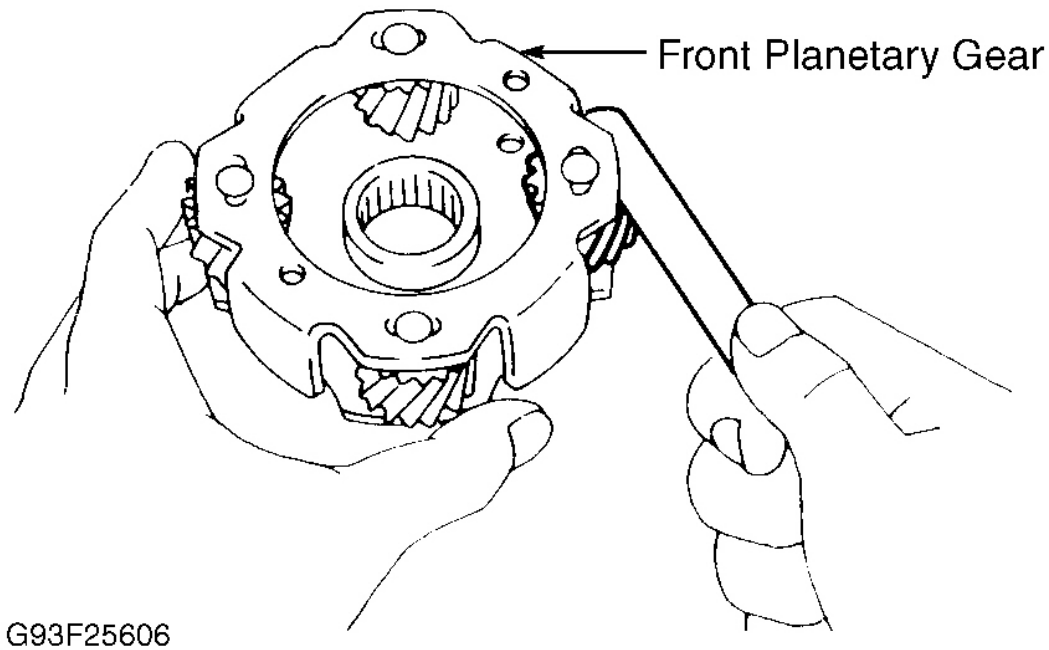

Fig. 32: Measuring Planetary Gear Thrust Clearance
3. Measure planetary pinion gear thrust clearance. Standard clearance should be .008-.020" (.20-.50 mm). Maximum clearance is .020" (.50 mm). If clearance exceeds specification, replace planetary gear. See **Fig. 32**.
Clean all parts with solvent. Dry parts using compressed air. Check thrust washers and one-way clutch for wear or damage. Replace damaged parts as necessary. Measure planetary pinion gear thrust clearance. Standard clearance should be .008-.020" (.20-.50 mm). Maximum clearance is .020" (.50 mm). If clearance exceeds specification, replace planetary gear. See **Fig. 32** .
3. Measure planetary pinion gear thrust clearance. Standard clearance should be .008-.020" (.20-.50 mm). See **Fig. 32**. If clearance exceeds specification, replace planetary gear assembly.